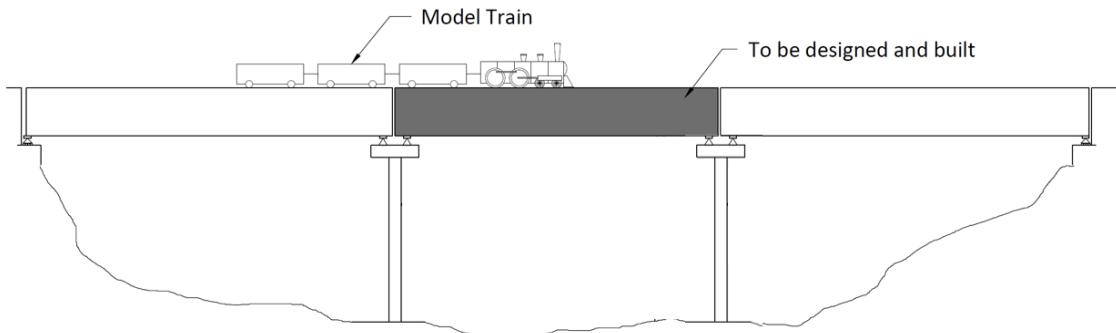

Figure 1. Three span bridge supporting the passage of a 400 N train. Teams must design the middle span.
In teams of three (3) or four (4), you will apply the concepts taught in CIV102 to design and build a small-scale box girder bridge out of matboard as shown in Figure 1. Your bridge will be subjected to increasing loads until failure. Throughout this project, you will be challenged in your ability to design a bridge that can handle the highest loading possible and to be accurate in your estimation of the final failure load.